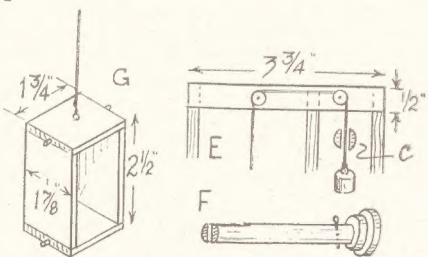

Fig. 2—The lift and mechanism
Across the slots in side (A) and strips (a) and (b), a piece of $\frac{1}{4}$ in. by $\frac{1}{2}$ in. wood is to be glued, to which the pulleys over which the lift cord passes, can be fitted. This is shown in position in Fig. 2 (E). Place it across temporarily, and pencil lines on it exactly in the centre of the lift and weight shafts.